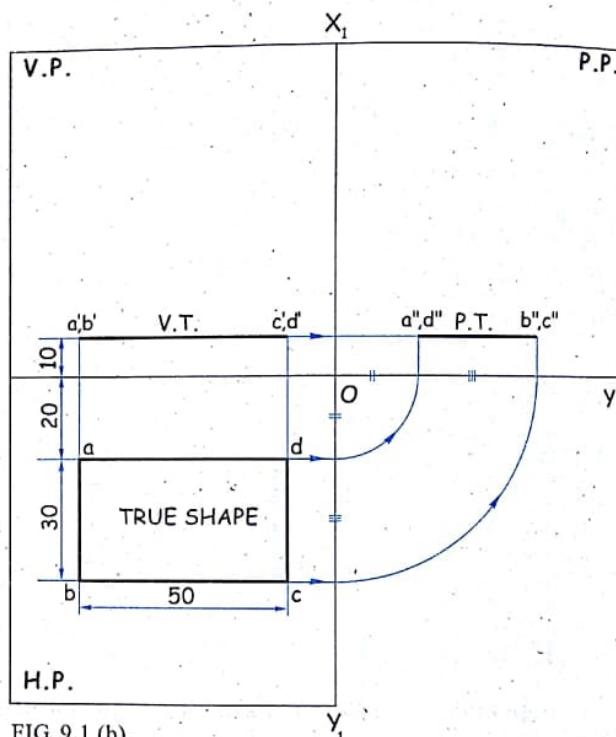

FIG. 9.1 (b)
- The required position of a plane $ABCD$ is shown in figure 9.1 (a) with its projections, i.e. front view (F.V.) $a'b'c'd'$, top view (T.V.) $abcd$ and side view (S.V.) $a''b''c''d''$.